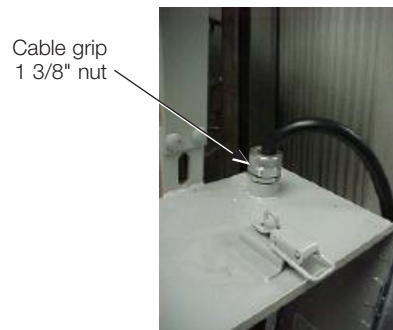

Figure 9.
5. Use a 1 3/8" open-end wrench to remove the cable grip on the top of the control box. Refer to Figure 9.
1. Connect the cable assembly-control box (Item 8) to the back panel. Refer to Figure 9.